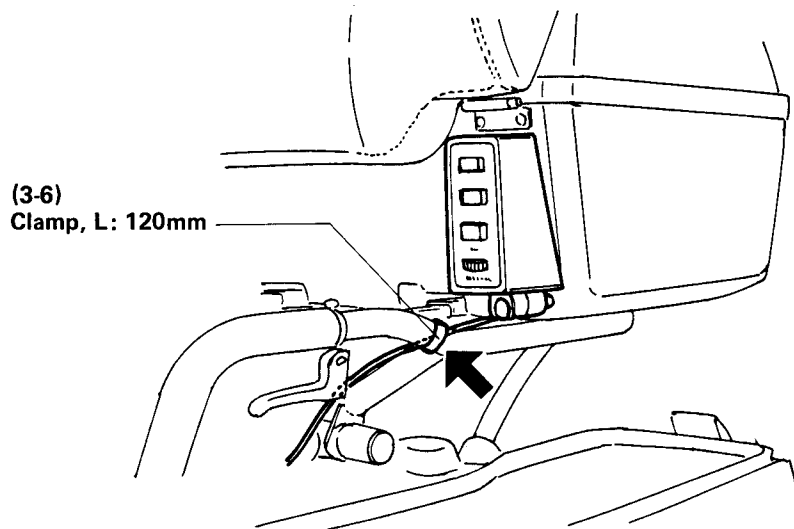

Fig. 20-2
- 3) Join the DIN connector (with a cap) at the female side of the rear headset connector wire (3-2) to the holder (3-4). Clamp to the hand rail as shown in Fig. 20-2.